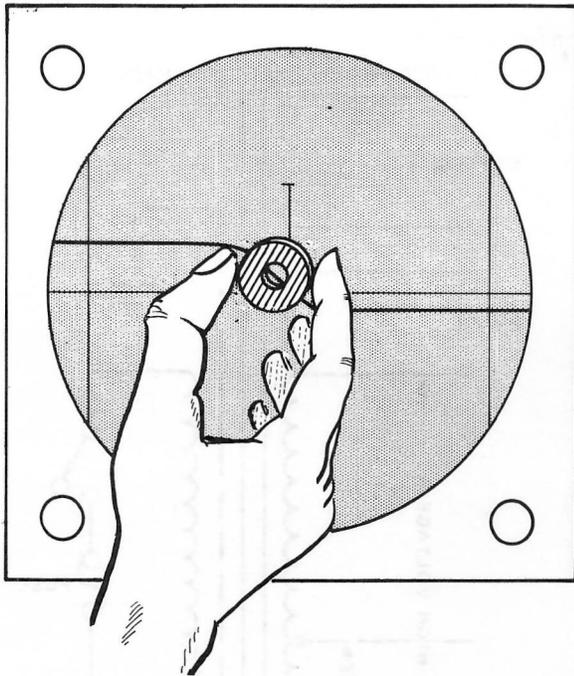

Figure 4-20
- () A small magnet is supplied with your kit. Place it against the screen and in front of the line as shown in Figure 4-20. Note how the line bends (distorts) in back of the magnet.